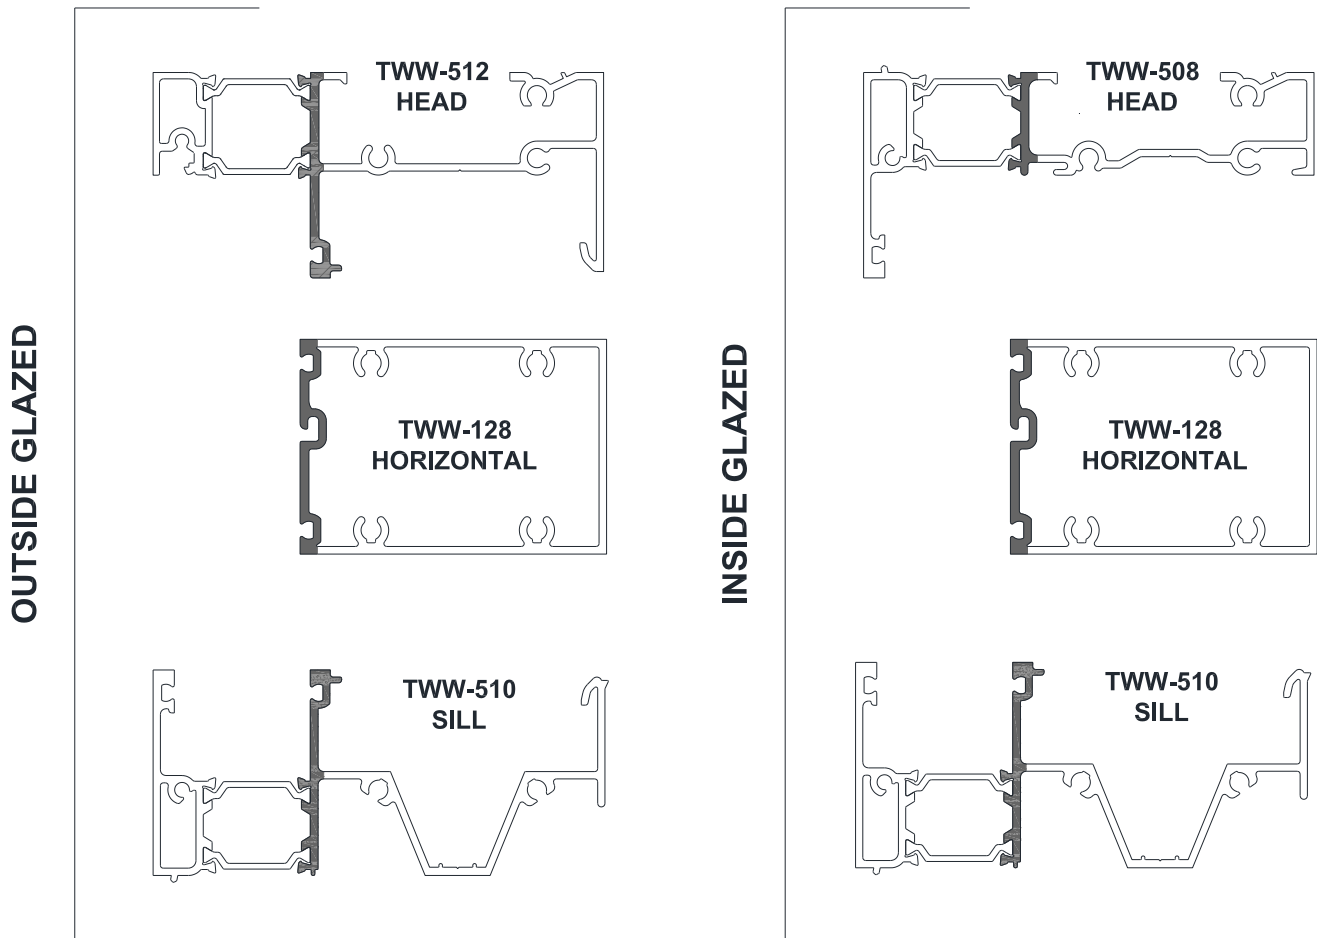

Figure 35: Sealing
- 12.3.4 Clean framing members at locations where Silicone Sealant is noted to be applied in *Figure 35*.
- 12.3.5 Apply Sealant to the end of the Head, Horizontal, and Sill that will attach to the Mullion or Jamb, as detailed in *Figure 35*.